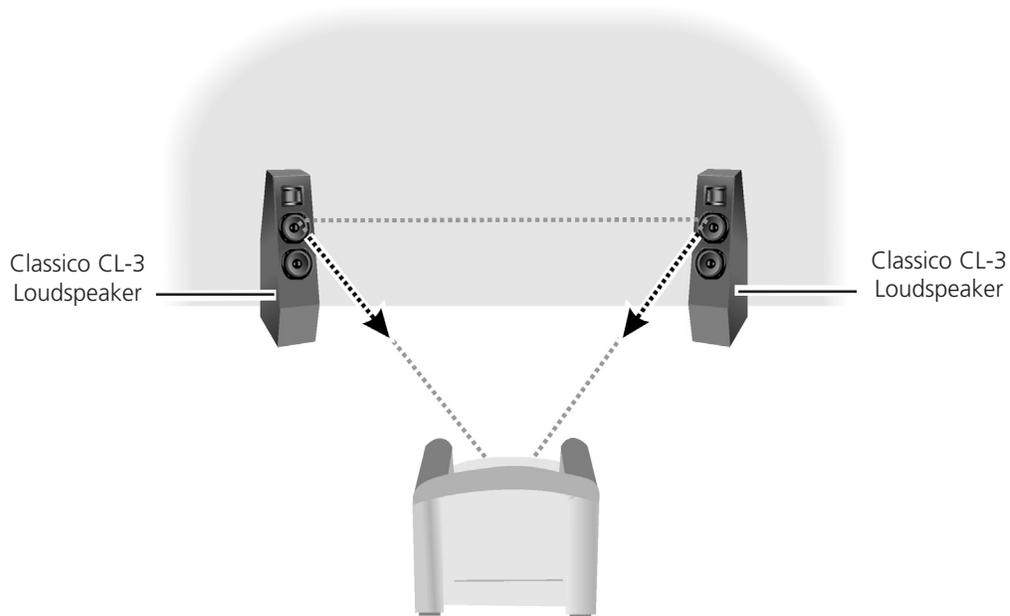
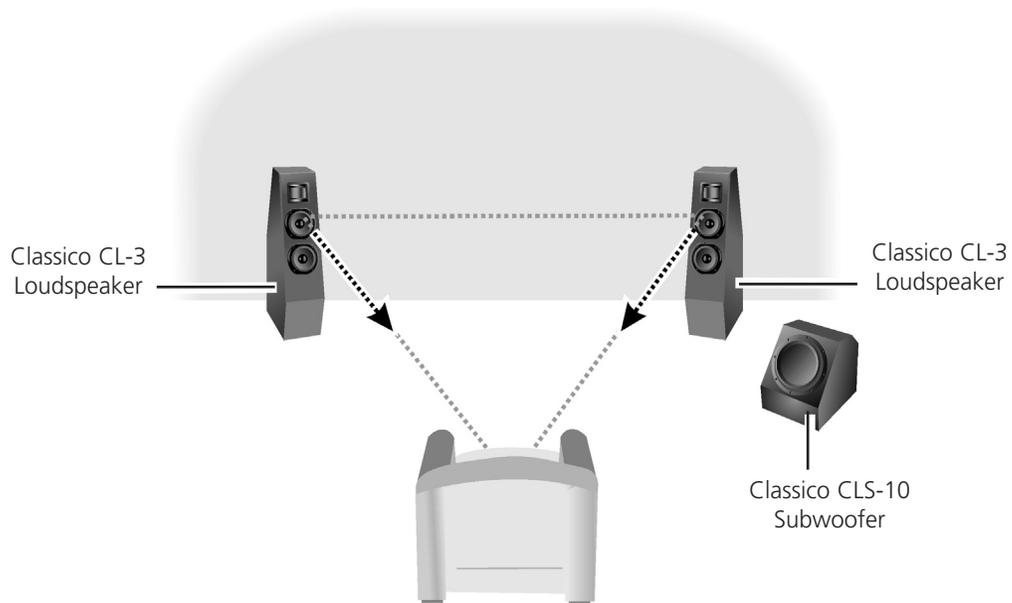

Figure 2. Example of a Stereo (2.0 Configuration) Setup
Figure 3. Example of a Stereo with Subwoofer (2.1 Configuration) Setup
If the setting lends itself, try positioning the left and right front speakers at the opposite ends of the base of an equilateral triangle whose tip is at the prime listening position (Figure 2). General guidelines suggest a 30- to 45-degree angle from the prime listening position to the left and right front speakers, which is particularly for good stereo reproduction.
**System Examples:** An example of a stereo (2.0 configuration) setup using two Classico CL-3s is shown in Figure 2. A stereo system with a subwoofer (2.1 configuration) setup using two Classico CL-3s and a Classico subwoofer is shown in Figure 3.